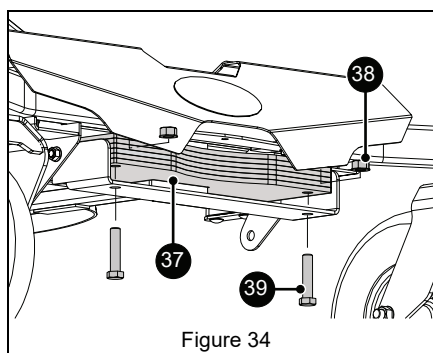

Figure 34
2. Insert six weight plates (item 37) into weight bracket and secure with two $\frac{1}{2}$ " x $2 \frac{1}{4}$ " hex bolts (item 39) and two $\frac{1}{2}$ " locking top flange nuts (item 38). See Figure 34.
10. Remove weights and hardware and retain. It is not necessary to remove weight bracket. See Figure 34.